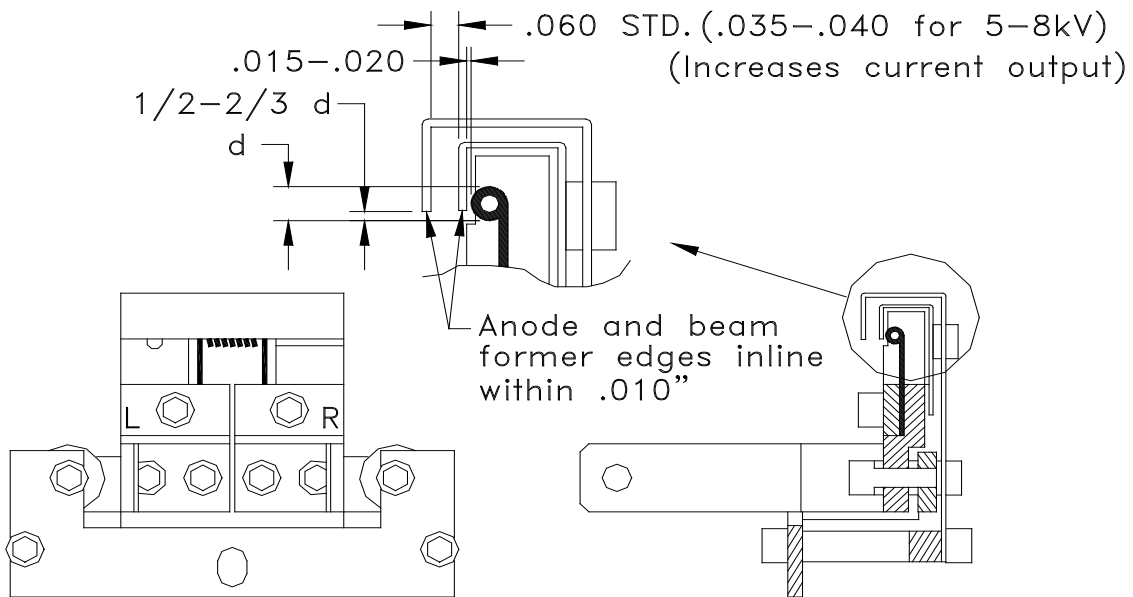

Figure 2-A Filament Location
If the emitter is disassembled, refer to 273-0150-3 pdf drawing and figure 2-A. Ninety percent of system problems during production relate to the EB-source emitter, so pay close attention to its assembly. It is of the utmost importance to trouble free runs.
- 2** The relative position of the anode plate, the beam former, and the filament must be precise to .005" (Refer to Figure 2-A). The filament (coils forward!) normally projects 1/2 of its diameter or slightly more (2/3) below the beam former. These dimensions are only a starting point. The clearance between these three elements should be judged based on experienced performance. The source will only work properly if these clearances are properly maintained.
- 9** Install the new filament, making sure that the filament orientation is correct (see figure 2-A). Using new #6 x 1/4" screws, loosely mount the filament clamps in place. Gently tap the emitter assembly on a flat surface to settle the filament into place. Slide the filament clamp on the right cathode block until it is flush with the right side of the block. Snug the right #6 x 1/4" screws. Gently push the left hand clamp into place. NOTE: Sliding this clamp can cause the filament to warp or bow. Snug the left #6 x 1/4" screws. Now check the alignment of the filament to the beam former.
- 13** Push down on the Anode and tighten the last two #6 x 1/4" screws. Check the alignment of the Anode to the beam former (see figure 2-A). The rebuilt emitter assembly is now ready to be installed back in the EB-source.